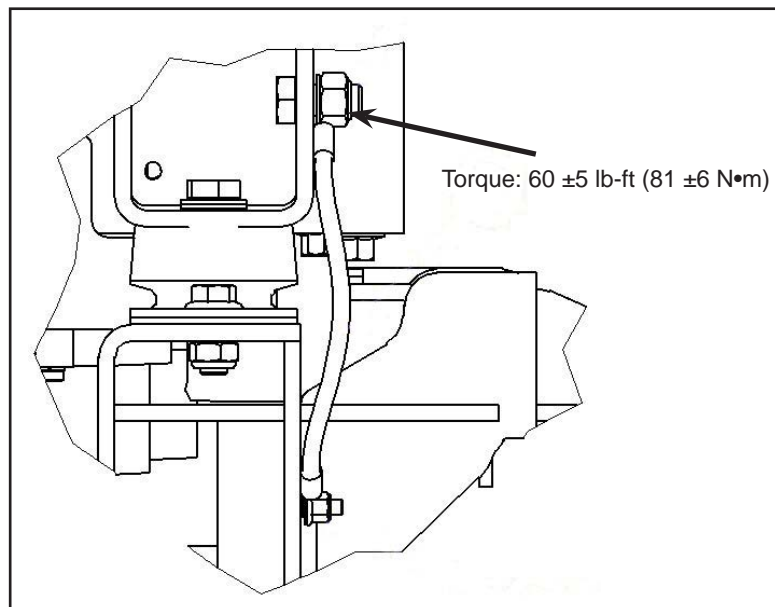

Figure 4 - Radiator Frame Ground Cable Installation
- 1.5. Re-install the ground cable on the radiator frame using the retained hardware. Torque to the specified value. See Figure 4. Apply Loctite Maxi-Coat, or equivalent, and Torque Seal paint.